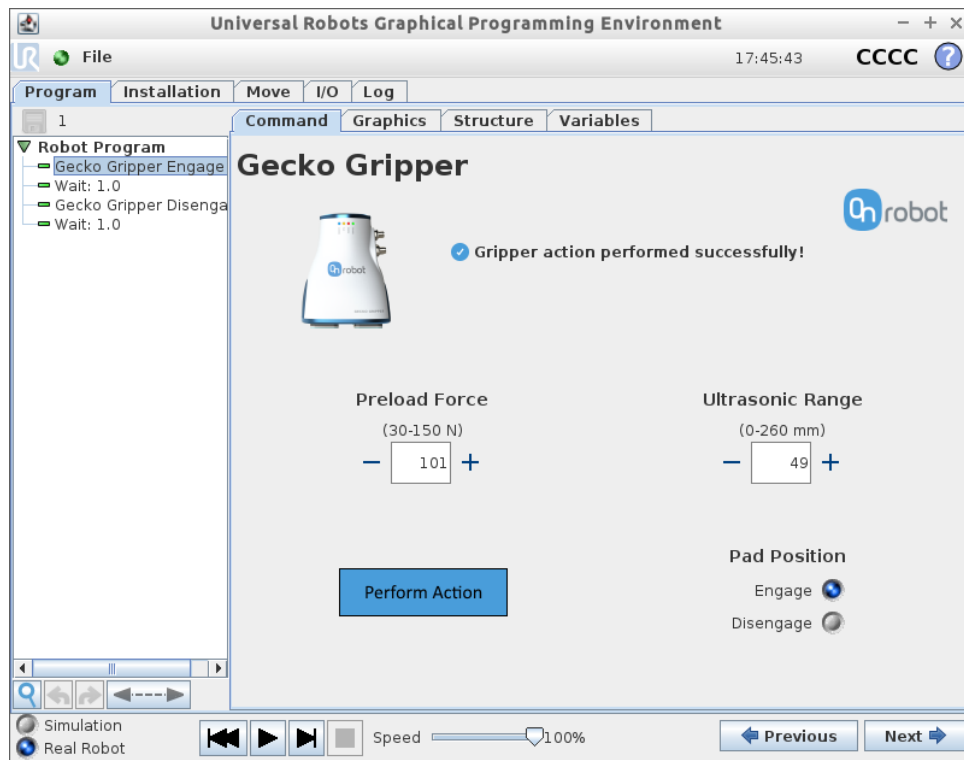

Figure 7: Gecko Gripper URCap has completed the gripper action.
- Step 6: When you have completed setting up the new state, select “Perform Action” to set the gripper to the state that matches the selected parameters. When the gripper has completed the action, the URCap will display the message “Gripper action completed successfully!” (Figure 7). These parameters are written to the gripper’s memory. If the gripper is run in I/O configuration, it will reference those parameters to set the gripper’s state. If the gripper used in Ethernet mode, it will reference those parameters as initial state, but they can be dynamically modified.